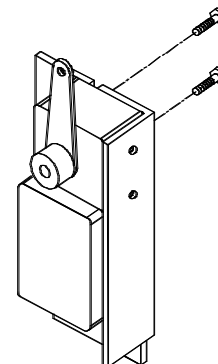

FIGURE 3
1. These shutter models have two tiebars. Before mounting the shutter motor to the shutter, re-position the shutter motor on the bracket as shown in Figure 3. Mount the motor and bracket to the bottom of the inside face on the rear of the shutter. Holes in the shutter frame are pre-punched. Position the bracket so that it is attached to the shutter frame along both the bottom and the side. Use the two (2) No. 10 nuts and bolts provided to attach the bracket to the shutter frame.